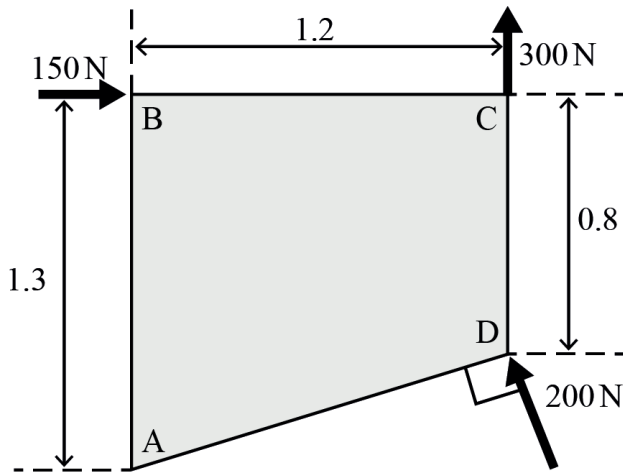

Fig. 6
- 5 Fig. 6 shows a rigid body with corners A, B, C and D that is subjected to three co-planar forces with magnitudes 150 N, 300 N and 200 N.